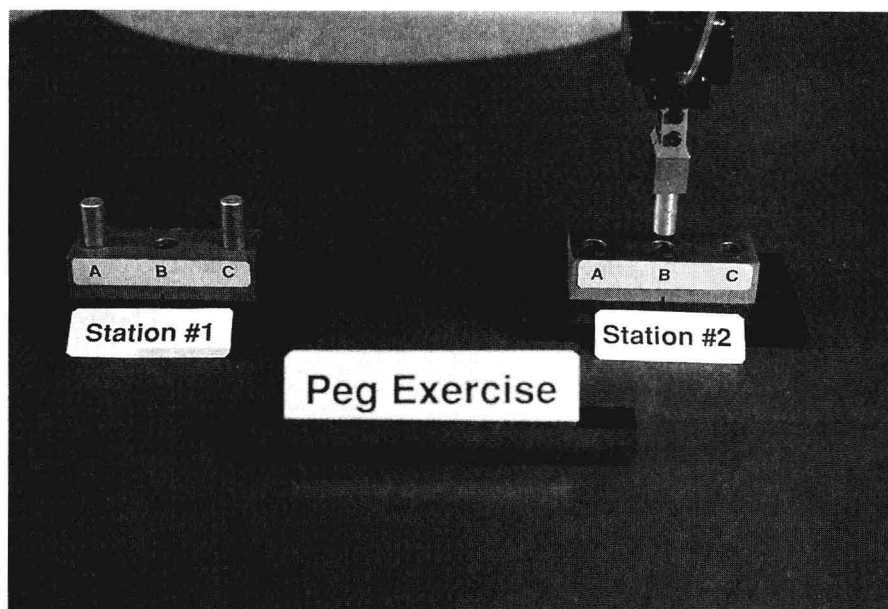

Figure 2-1 Equipment layout for Activity 2.
2. Refer to Figures 2-1 and 2-2 for equipment layout in this exercise.